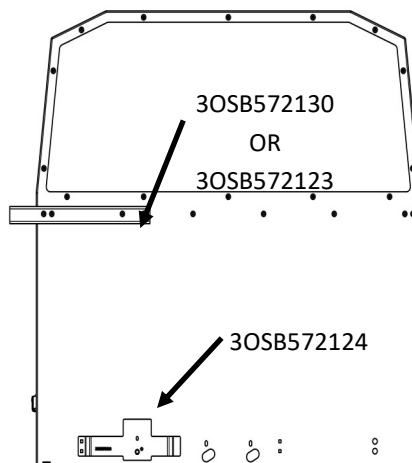

Figure 4b
8. On the passenger side of the barrier, align the retractor bracket [3OSB572124] with the square holes on the front side of the barrier. Loosely secure the retractor bracket and barrier brackets by inserting (4) carriage bolts [3X61] and finger tightening (4) whiz nuts [3X612] onto the bolts. The bolts should go through the Retractor Bracket, the Barrier, and then the Lower Barrier Bracket in that order. Figure 4b shows the correct orientation of the retractor bracket.
1. If installing standard OSB belt, skip to step 2. Locate retractable belt assembly [3OSB000006] and 7/16"-20 x 1" Gr.8 bolt [3X616] and 1/4"-20x0.75" button head screw [3X184]. Using this hardware, secure belt retractor to previously installed retractor bracket [3OSB572124] pictured in Figure 4b. Once retractor is secure, feed buckle and mounting tab end of belt through slot in daughter OSB Bar. Run the lower mounting tab through